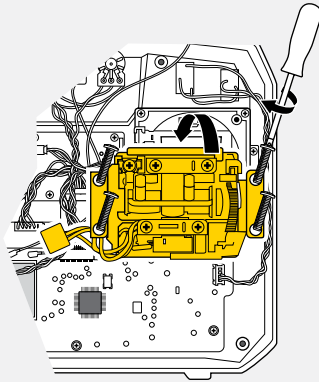

Fig. 18
9. Replace the throttle stick and screws (see [Fig. 18]). Apply little force when tightening the screws.